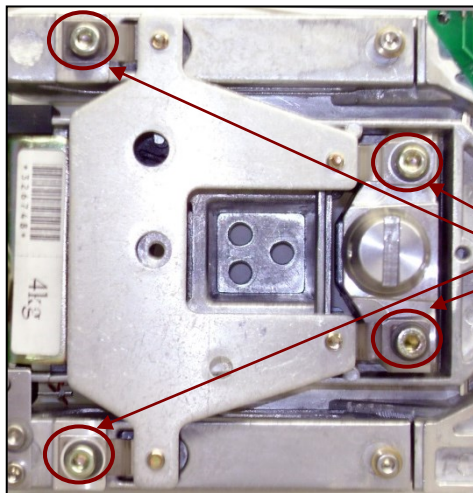

Figure 3-71. Precision Load Cell top.
12. Install the Bottom and Top Flexure Arms, in that order, Flexure side down. (See Figures 3-71 and 3-72.) Avoid bending the Flexures. If bent, they must be replaced.